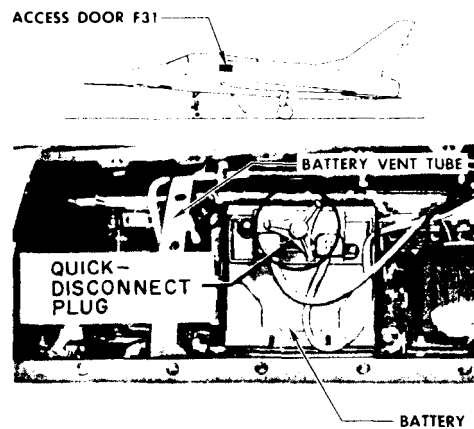

Figure 9-26. Battery Location of F-100 Aircraft (All Models)
a. Battery. The battery for the F-100, all models, is located on the left hand side below the canopy. (see figure 9-26)